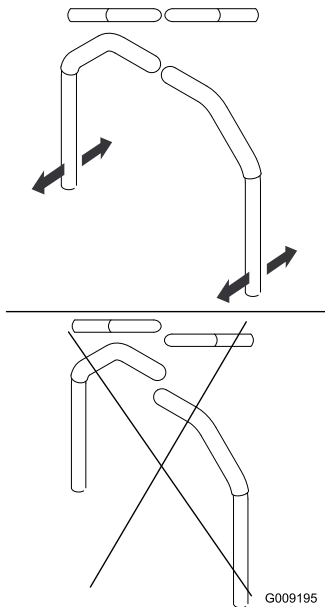

Figure 85
4. Align the levers front to rear position by bring the levers together to the neutral position and slide them until they are aligned, then tighten the bolts (Figure 85).